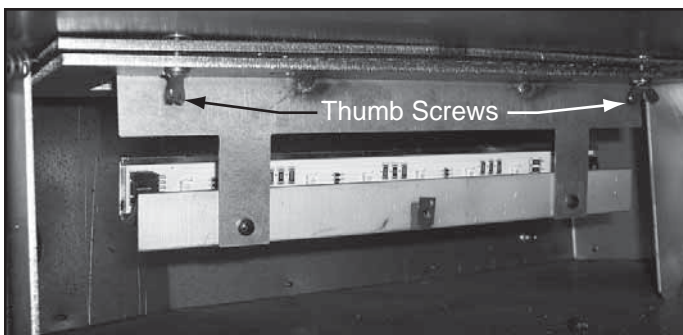

Figure 3.4 Loosen Glass Frame
- Loosen the two thumb screws on the glass frame above the LED light bar. See Figure 3.4.